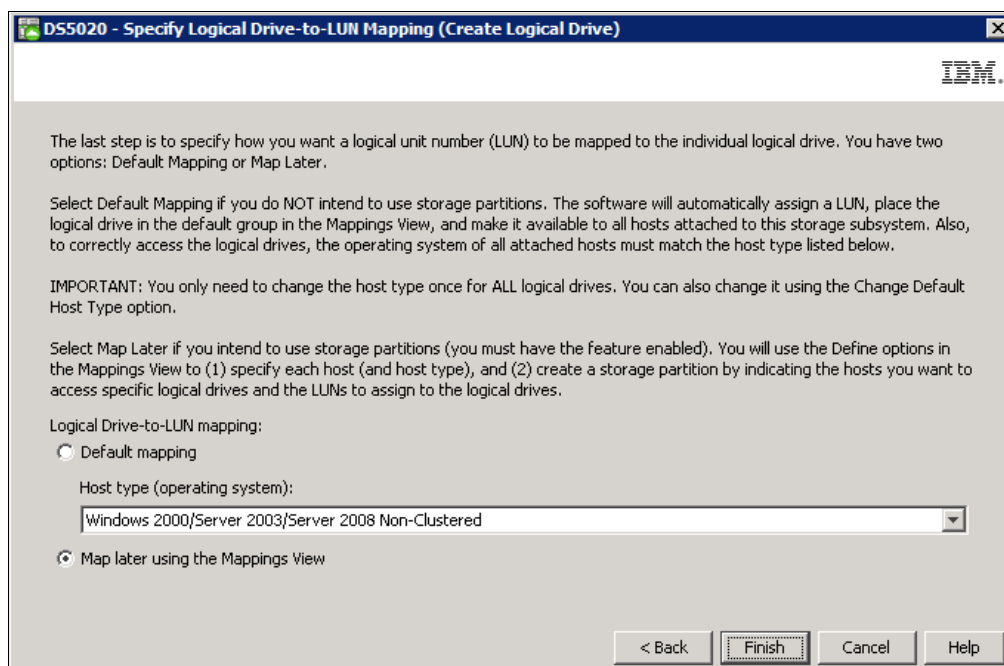

Figure 4-62 Logical drive mapping
8. The Specify Logical Drive-to-LUN Mapping window opens (Figure 4-62). This window allows you to choose between mapping your created logical drive to the default group or to “Map later using the Mappings View.” If you choose the Default mapping, then the physical volume is mapped to the default host group and is available to any host zoned to the DS5000 storage subsystem, so it is not the recommended choice if your DS5000 storage subsystem supports more than a single partition.